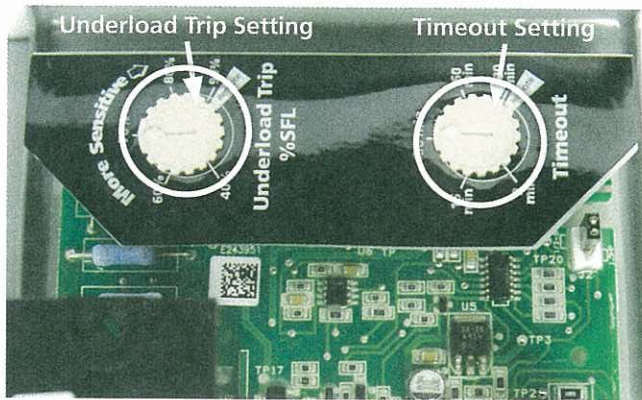

Figure 3
3. Record the settings of the underload sensitivity (e.g. 70%) and timeout (e.g. 30 minutes) adjustment knobs (Figure 3). Underload Trip Setting \_\_\_\_\_ Timeout Setting \_\_\_\_\_